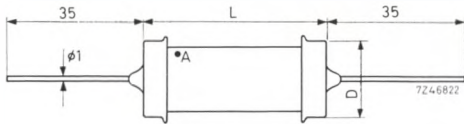

Fig. 1
- (a) with axial connecting wires (fig. 1); the dimensions are given above the dividing lines;